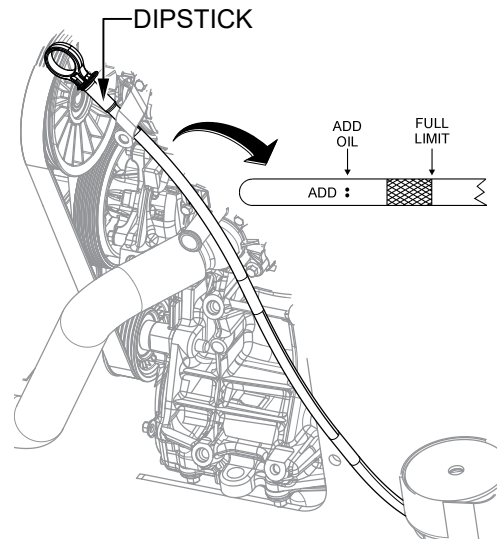

Figure 58. Engine Oil Dipstick
2. Pull the engine oil dipstick (Figure 58) out of its holder and wipe it with a clean rag.
4. Determine if engine oil is low. Oil should be between the upper and lower marks (Figure 58) on the dipstick.